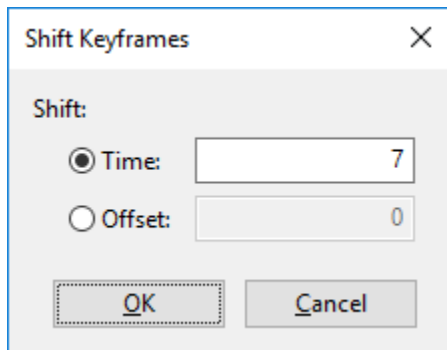

Figure 5:2 Shift Keyframes dialog
2. Right-click the keyframes and select **Shift Times**. This will open the **Shift Keyframes** dialog as shown in Figure 5:2.